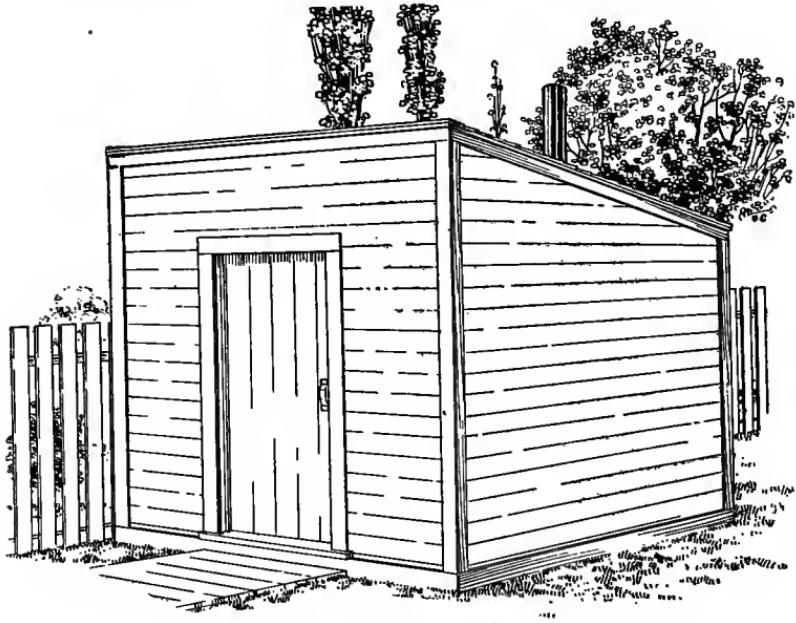
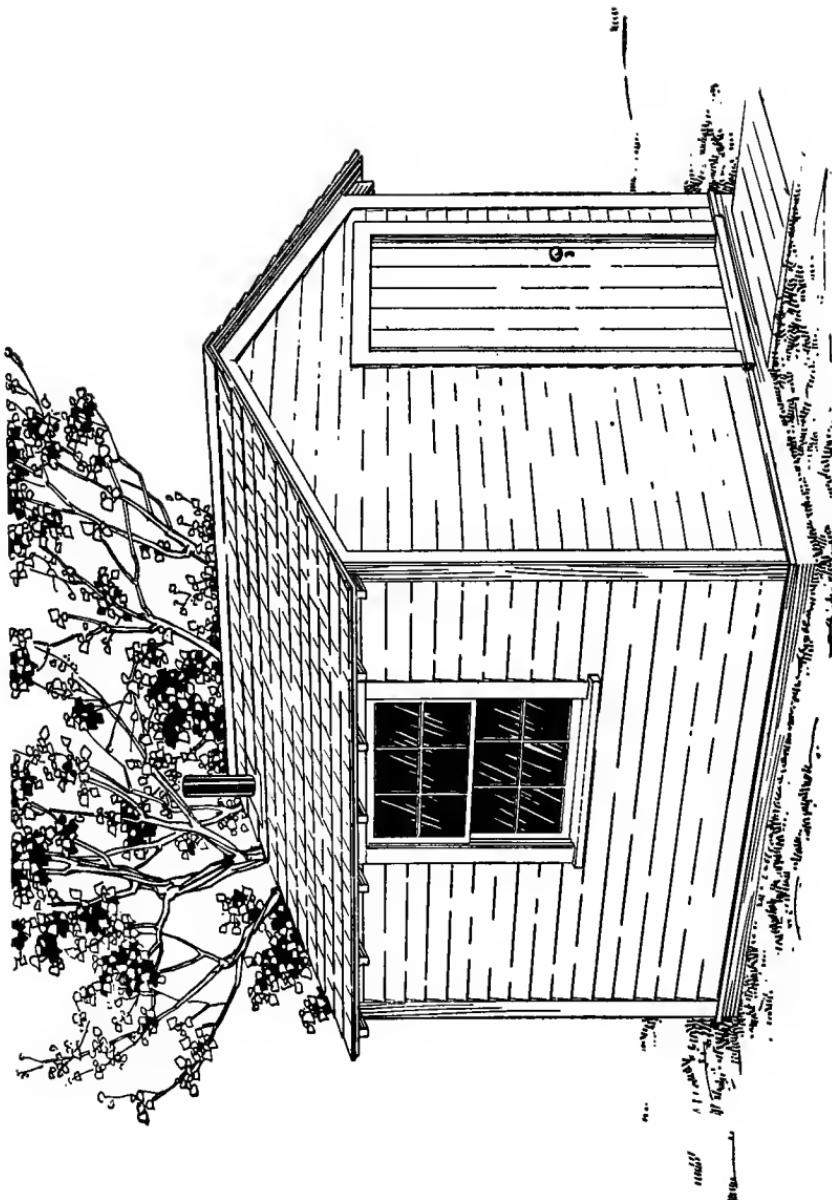

FIG. 1.—A Back-Yard Workshop with a Lean-to Roof.
FIG. 12.—A Back-Yard Workshop with a Gable Roof.
The workshop shown in Fig. 1 is of the simplest type of building, and its *lean-to* or shed roof requires less material and less time to build than any other kind. However plain this building is upon the outside, it will serve your purpose exactly as well as though it were of a more pretentious design. Vines trained over the sides will relieve their
For a small building with a lean-to roof, such as is shown in Figs. 1 and 6, it is best to make the front and rear wall frames in this way, and then set up the side wall *studs* after the roof rafters have been put on, fitting them between the floor and the rafters.
**The Outside Trim** must be put on, also, because the siding or shingles must be fitted between the *trim*. The shop shown in Fig. 1 has a wall covering of drop-siding, while the shop in Fig. 12 is first sheathed with ship-lap, then covered with heavy building-paper, and then sided with beveled-siding placed on top of the paper. The building-paper should be lapped around the corners, and fitted close against the door and window openings; then the outside trim should be nailed in place, and the beveled-siding cut to fit between the trim.
**A Workshop with a Gable Roof** (Fig. 12) has more style to it than one with a lean-to roof, and
If you Install a Stove for heating your workshop, and extend a stove-pipe through the roof, or out through a wall, be sure to keep the pipe at least  $\frac{3}{4}$  inch away from any wood, to eliminate any possibility of the wood catching fire. A tin *collar* must be cut to fit over the top of the pipe, to make the roof water-tight, and the roof shingles should be lapped over its edges just the same as though the piece of tin were a shingle (Fig. 12). Fasten a second tin collar around the stove-pipe, close against the workshop ceiling, and tack it in place. Protect the floor, beneath the stove, with a piece of heavy galvanized iron large enough for the stove legs to stand upon (Fig. 17).